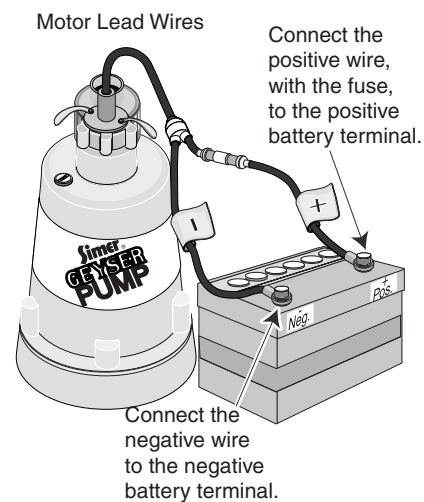

Figure 2 – Wiring Connections.
6. Connect the motor lead wires as indicated in Table I and as shown in Figure 2.